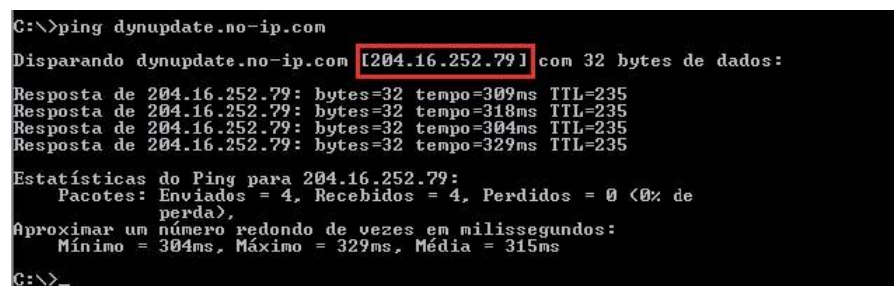

Figure 14-10
10. Now you need to define the definition of the server's IP in IP-device able to access this service DDNS. To get DDNS service, you need to have a computer connected to the Internet on the same network with device. Then please type the command `dynupdate. no ping-ip.com` at the command prompt, Windows ®. The server's IP will be displayed on the screen. See Figure 14-10. Your device can use this IP to find the No-IP server.